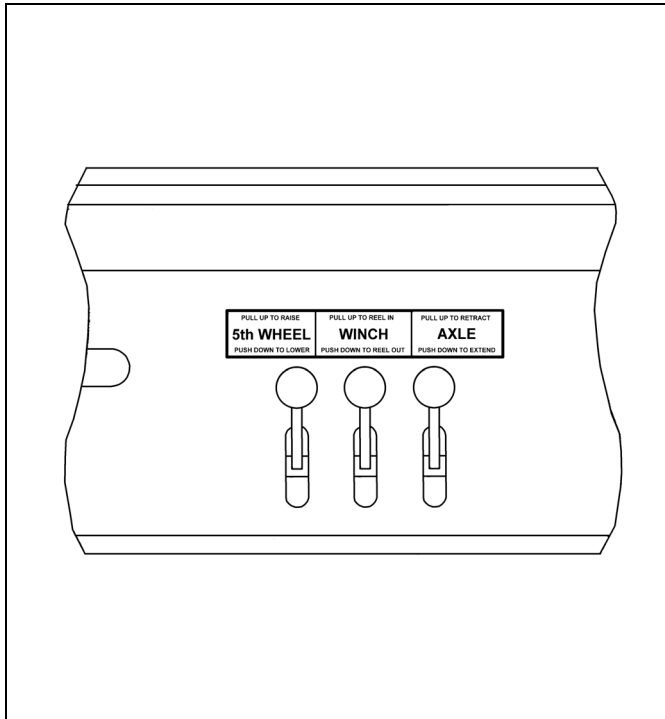

Figure 3-3: Hydraulic Controls
2. The **HYDRAULIC WINCH CONTROL LEVER** is the center lever (See Figure 3-3.) It has three positions:
The **AXLE CONTROL LEVER** is located on the front, lower deck of the driver's side frame member (See **Figure 3-3.**) It is the rear lever with three positions:
The **TRAILER TILT LEVER** is located on the front lower deck of the driver's side frame member (See **Figure 3-3.**) It is the front lever with three positions: